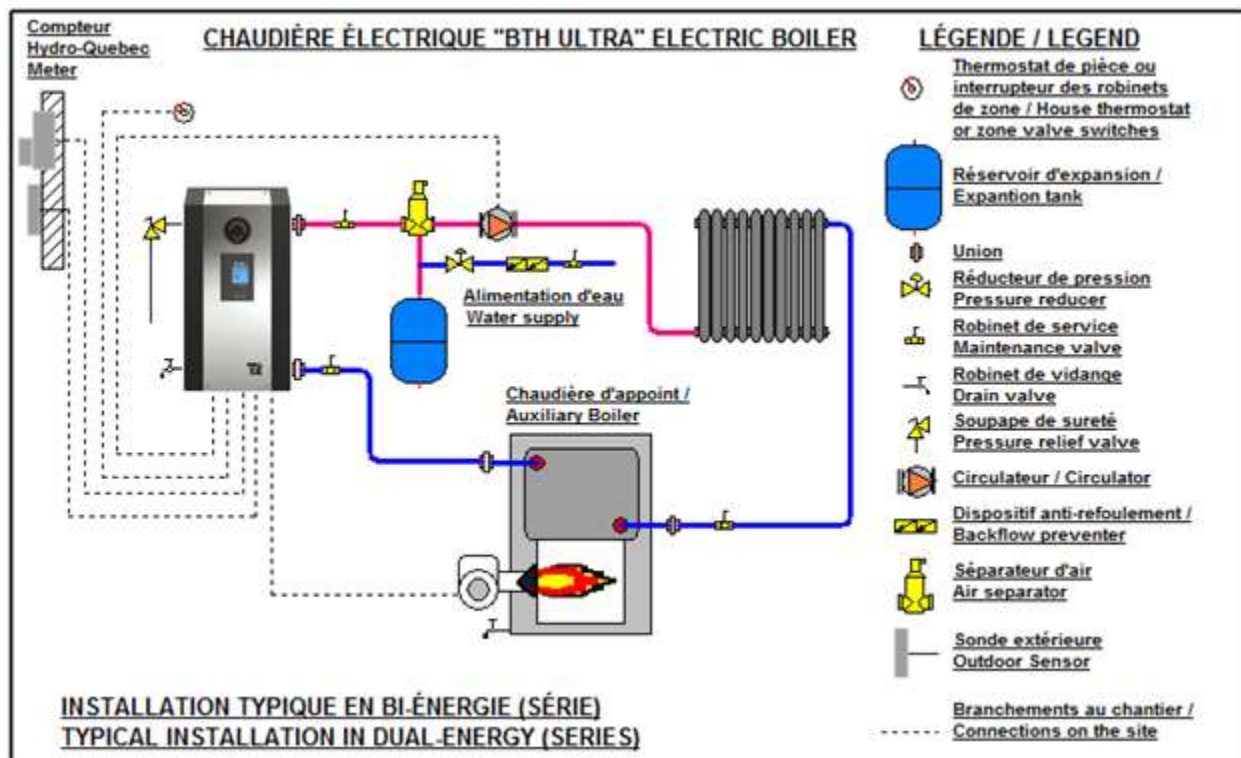

Figure 8 : Typical Installation in Dual-Energy Series
N.B.: Make sure to select the appropriate port A, B and AB when making the connection of the piping (see fig.8)